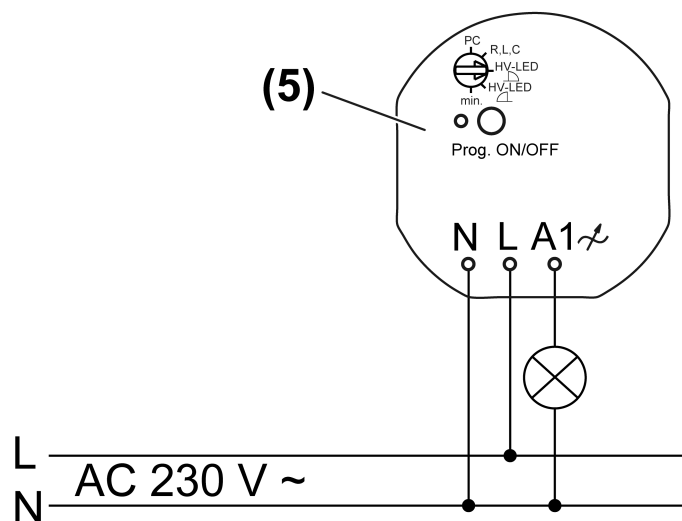

Figure 2: Connection diagram
- Connect the load according to connection diagram (Figure 2).
- Insert the actuator in the appliance box in such a way that the **Prog** button (2) and status-LED (3) are visible.